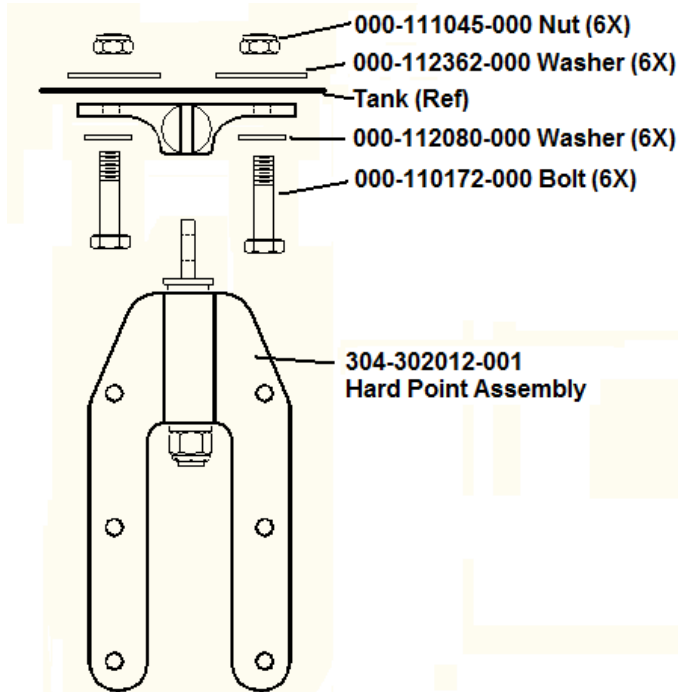

Figure 4: Tank Attachment Details
13. Remove four (4) 304-302012-001 corner attachment fittings shown in Figure 1 and exploded in Figure 4 by removing the bolts, washers and nuts securing the brackets to the tank. Discard brackets and hardware.
17. Position replacement hard point assemblies, 304-302012-001 on each corner of the tank and install each with 732 Sealant and six (6) 000-110172-000 bolts, 000-112080-000 washers, 000-112362-000 washers and 000-111045-000 nuts as shown in Figure 4.